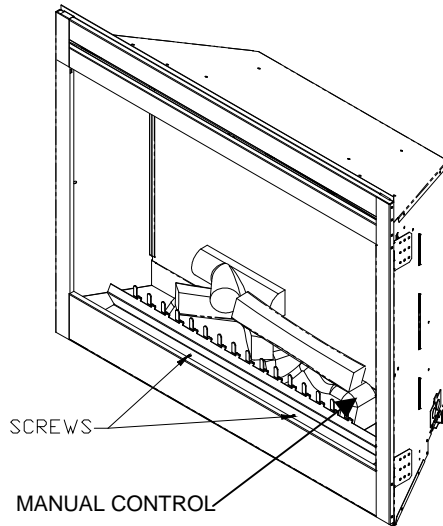

FIGURE 4
2. Remove two screws on log grate and remove log grate (FIGURE 4).